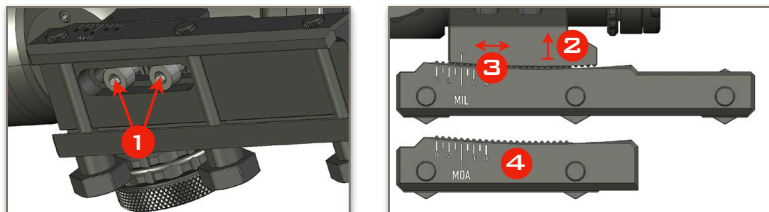

FIG. 1
- Undo the two screws below the rail (Fig.1, Pos.1), remove it and replace with desired rail.
- Loosen the two screws just enough to allow the upper mount to be lifted and repositioned (Fig.1, Pos 2,3).